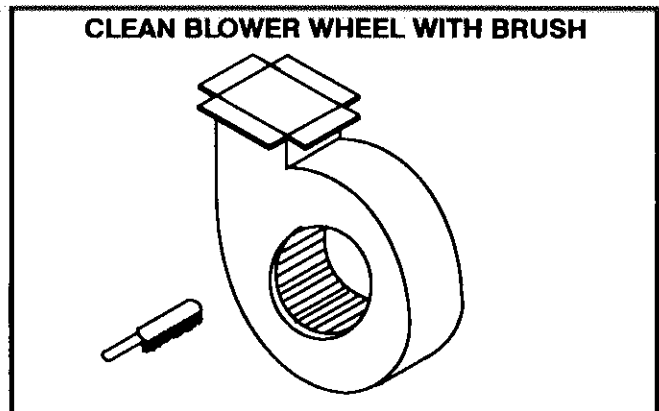

FIGURE 14
- 4– Clean blower wheel(s) with a small brush and wipe off any dust from housing(s). Clean accumulated dust from front of blower box(s). See figure 14.